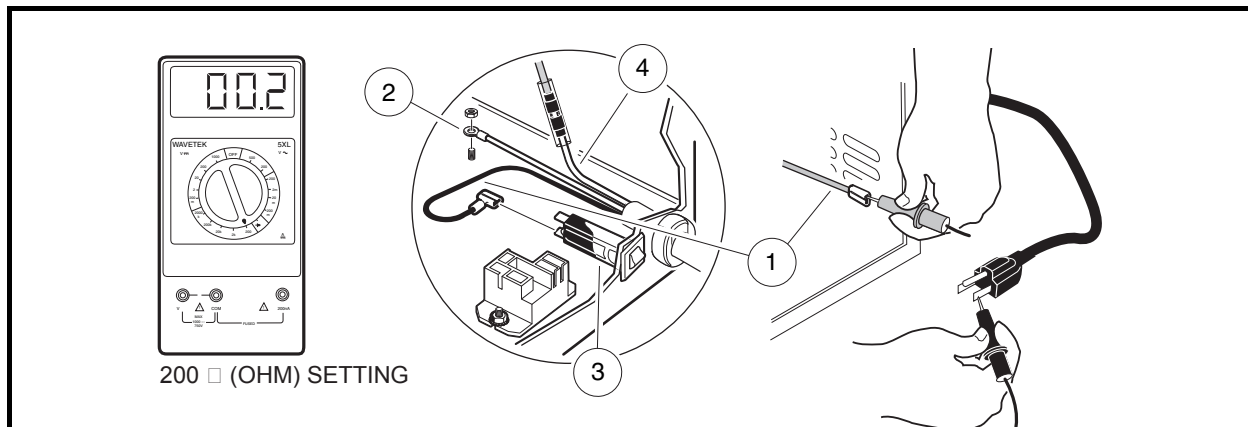

Figure 3-23 AC Cord and Plug Continuity Test
3. Disconnect the green wire (2) from charger case and position it so it does not touch any metal part of the charger (**Figure 3-23, Page 3-24**).
4. Disconnect the black wire (1) of AC cord from charger AC circuit breaker (3).
5. Disconnect the AC cord white wire (4) from the primary coil tan wire.
6. Using a multimeter set for 200 ohms, place the red (+) probe on the terminal at the end of the black wire (1). Test for continuity on each of the flat blades and then on the round pin of the AC plug. The tester should indicate continuity on one flat blade only. If any other reading is obtained, the AC cord and plug must be replaced.
7. Place the red (+) probe on the end of the green wire (2) and with the black probe check for continuity on both flat blades and on the round pin of the AC plug (**Figure 3-23, Page 3-24**). The tester should indicate continuity on only the round pin. If any other reading is obtained, the AC cord and plug must be replaced.
8. Place the red (+) probe on the white wire (4) and check for continuity on both flat blades and on the ground pin of the AC plug. The tester should indicate continuity on only one flat blade. If any other reading is obtained, the AC cord and plug must be replaced.